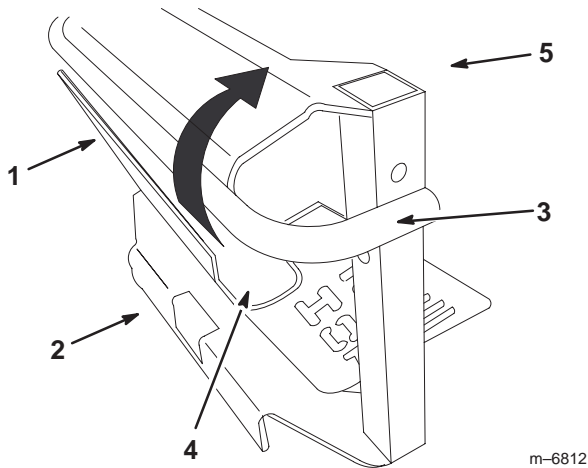

Figure 5
6. At an angle, insert the top of the heat shield under the bar of the bagger bracket. Position the bagger bar as far as possible into the heat shield notches (Fig. 5).